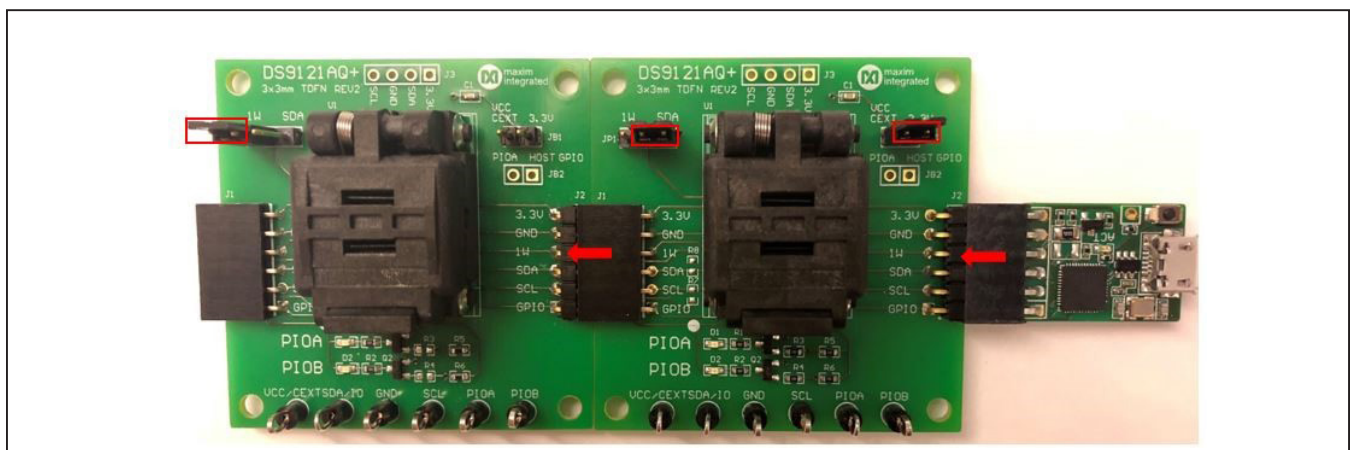

Figure 10. DS9481P-300 and DS9121AQ
- d) Connect the first DS9121AQ J2, 6-pin male socket header to the DS9481P-300#, 6-pin female plug, as shown in Figure 10.
- e) Connect the first DS9121AQ J1, 6-pin female socket into the second DS9121AQ J2, 6-pin male plug. (Figure 10).
- f) For the first socket board with DS2476, configure the jumpers JP1 to use SDA and JB1 to use 3.3V. With the DS28E36, configure the jumpers to JP1 to use 1W and do not populate JB1 (Figure 10).